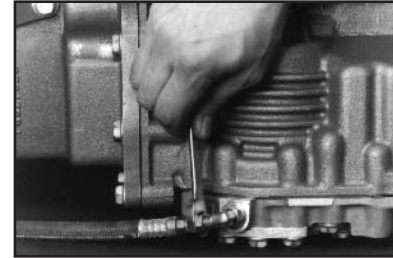

Fig. 8
9. Securely attach the high pressure line to the elbow fitting at the transmission high pressure port and torque to 11-12 Lbs. ft. [15-16 N.m.]. This fitting is included with the P.T.O. (**Fig. 8**).